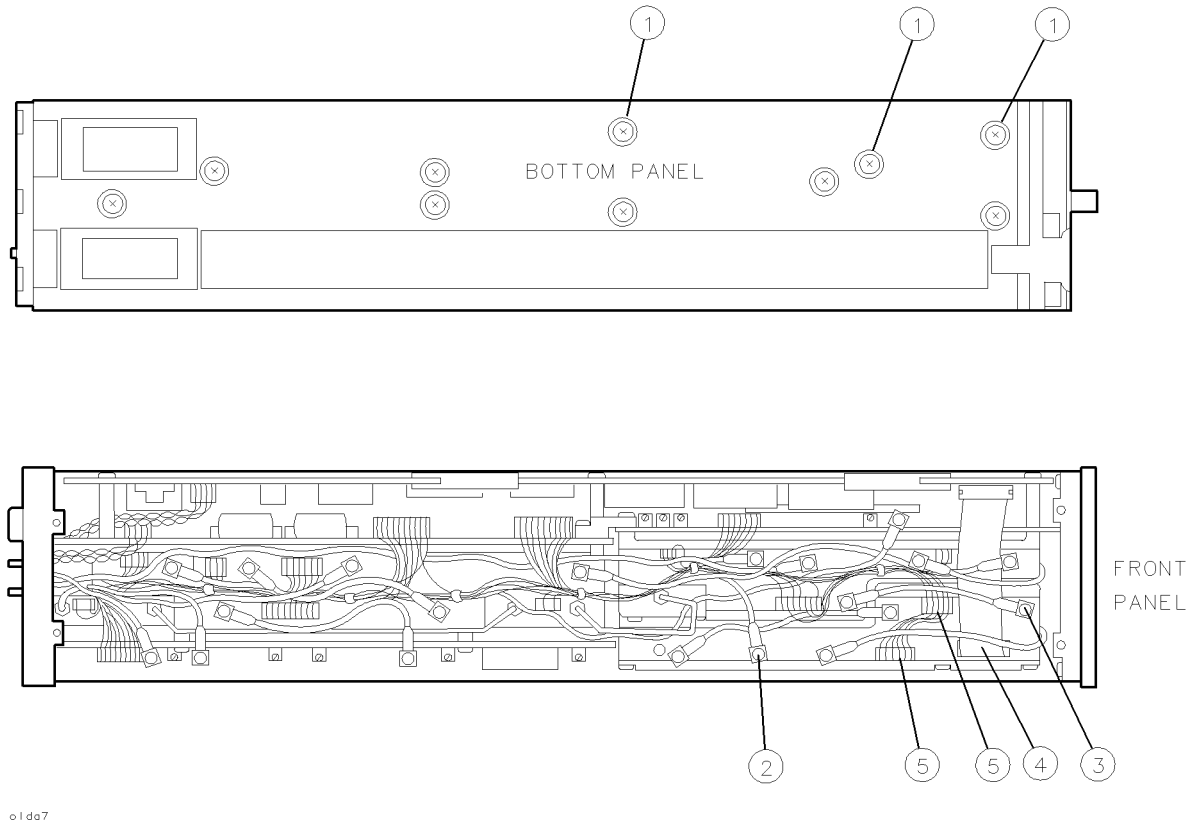

Figure 9-15.
1. Remove three screws ① while the module rests on its right side. See Figure 9-15.
2. Disconnect W3 ② and W1 ③ from the A7 FRAC'N synthesizer.
3. Disconnect the two A11 wiring harness connectors ⑤ and the W14 ribbon cable ④.